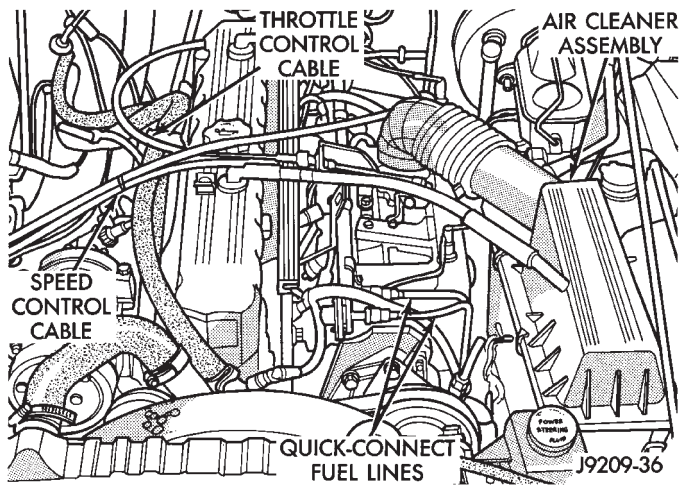
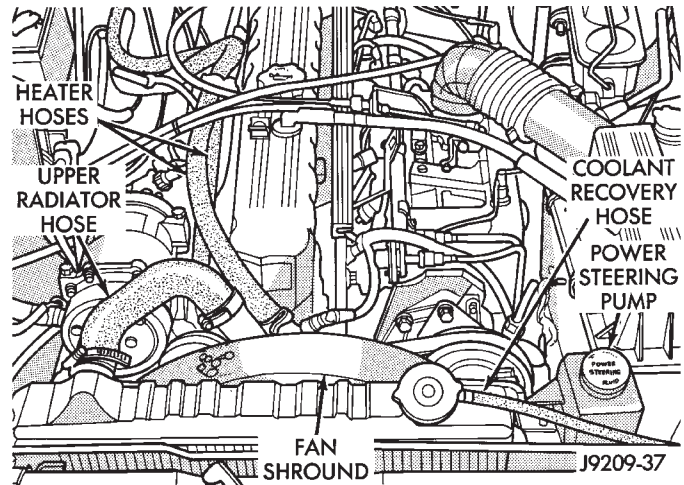

Fig. 18 Fuel Line Quick-Connect Couplings, Air Cleaner Assembly, Throttle & Speed Control Cables
Fig. 19 Upper Radiator Hose, Coolant Recovery Hose, Fan Shroud & Power Steering Pump
- (4) Disconnect the wire connectors from the generator.
- (5) Disconnect the ignition coil and distributor wire connectors.
- (6) Disconnect the oil pressure sender wire connector.
- (7) Disconnect the wires at the starter motor solenoid and injection wire harness connector.
- (8) Disconnect the quick-connect fuel lines at the fuel rail and return line by squeezing the retaining tabs against the fuel tube (Fig. 18). Pull the fuel tube and retainer from the quick-connect fitting (refer to Group 14, Fuel System for the proper procedure).
- (9) Remove the fuel line bracket from the intake manifold.
- (10) Disconnect the engine ground strap.
- (11) Remove the air cleaner (Fig. 18).
- (12) Disconnect the vacuum purge hose at the fuel vapor canister tee.
- (13) Disconnect the idle speed actuator wire connector.
- (14) Disconnect the throttle cable and remove it from the bracket (Fig. 18).
- (15) Disconnect the throttle rod at the bellcrank.
- (16) Disconnect the speed control cable, if equipped (Fig. 18).
- (17) Disconnect the oxygen sensor wire connector.
- (18) Remove the upper radiator hose and coolant recovery hose (Fig. 19).
- (19) Disconnect lower radiator hoses at the radiator.
(20) Disconnect the coolant hoses from the rear of the intake manifold and thermostat housing.
(21) Remove the fan shroud screws.
(22) Remove the radiator attaching bolts.
(23) Remove the radiator and fan shroud (Fig. 19). Refer to Group 7, Cooling System for the proper procedure.
(24) Remove the fan and spacer or Tempatrol fan assembly.
(25) Install a 5/16 X 1/2-inch SAE capscrew through fan pulley into water pump flange. This will maintain the pulley and water pump in alignment when crankshaft is rotated.
(26) Remove the power brake vacuum check valve from the booster, if equipped.
(27) If equipped with power steering (Fig. 19):